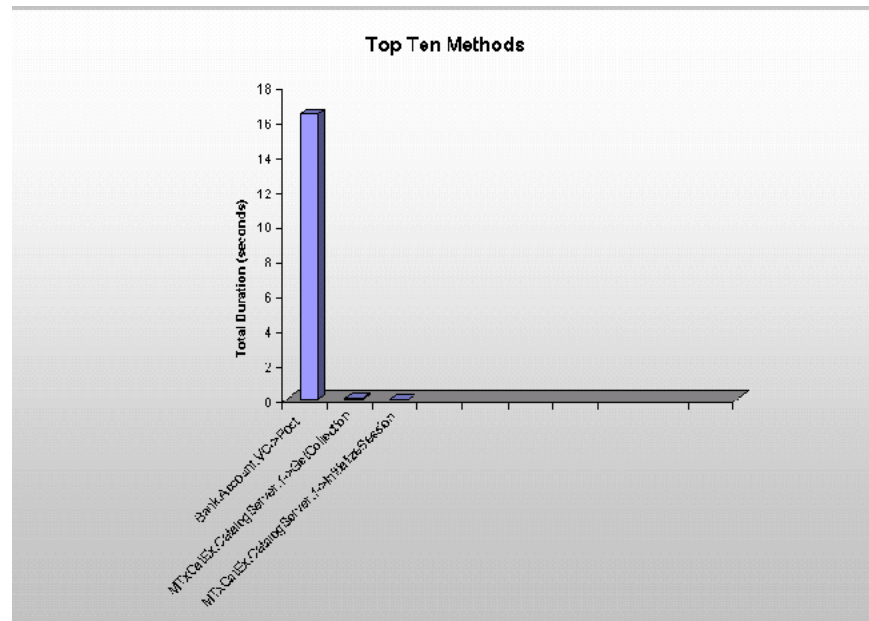

Figure 17
- The first report to view is the **Summary Report** (see Figure 17).